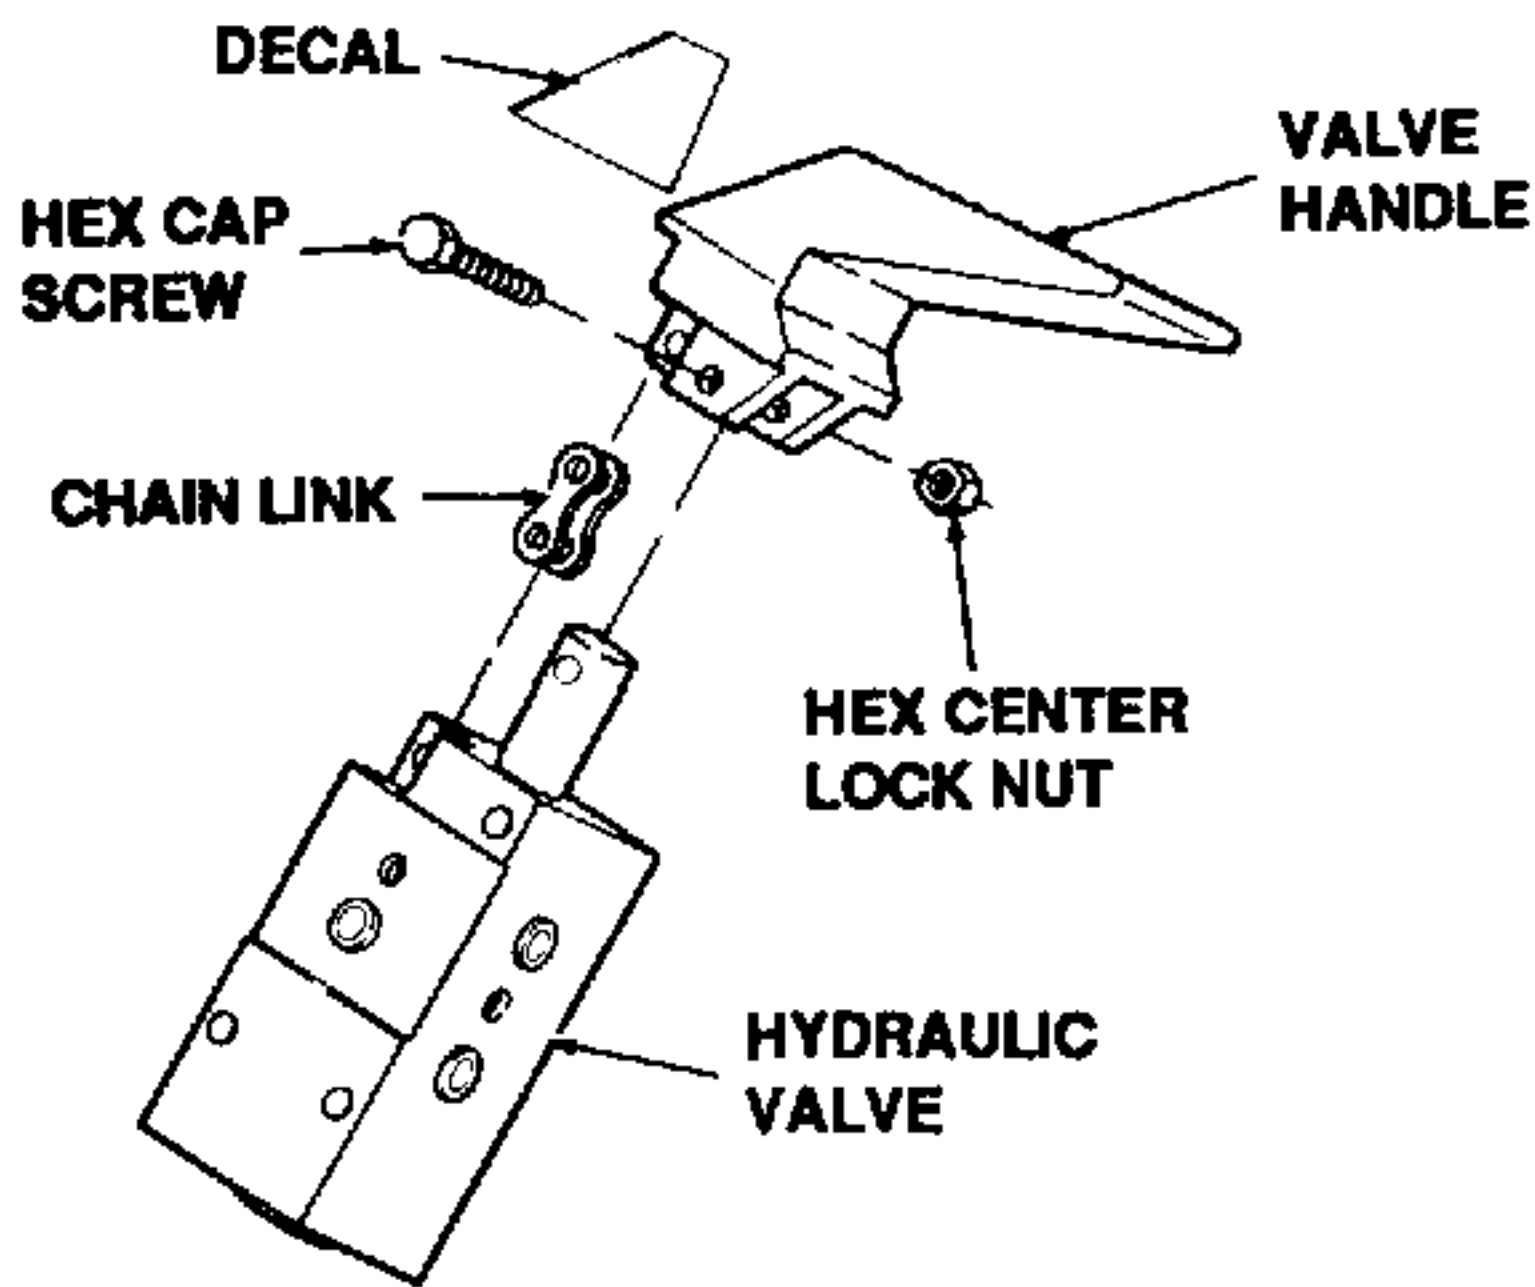

Figure 7-74. Positioning Valve Handle on Hydraulic Valve.
- b. Position valve handle (2, Figure 7-66) on the valve as shown in Figure 7-74, and secure with hex cap screw (3, Figure 7-66) and hex center lock nut (4).
- c. Attach chain link to the valve and handle as shown in Figure 7-74.
- d. Attach label (6, Figure 7-66) with picture of closed cylinder on top, to valve handle. Refer to Figures 7-74 and 7-78.
4. Remove and retain hex nut and bolt securing top valve mounting bracket to frame. Retain bracket. Refer to Figure 7-74.